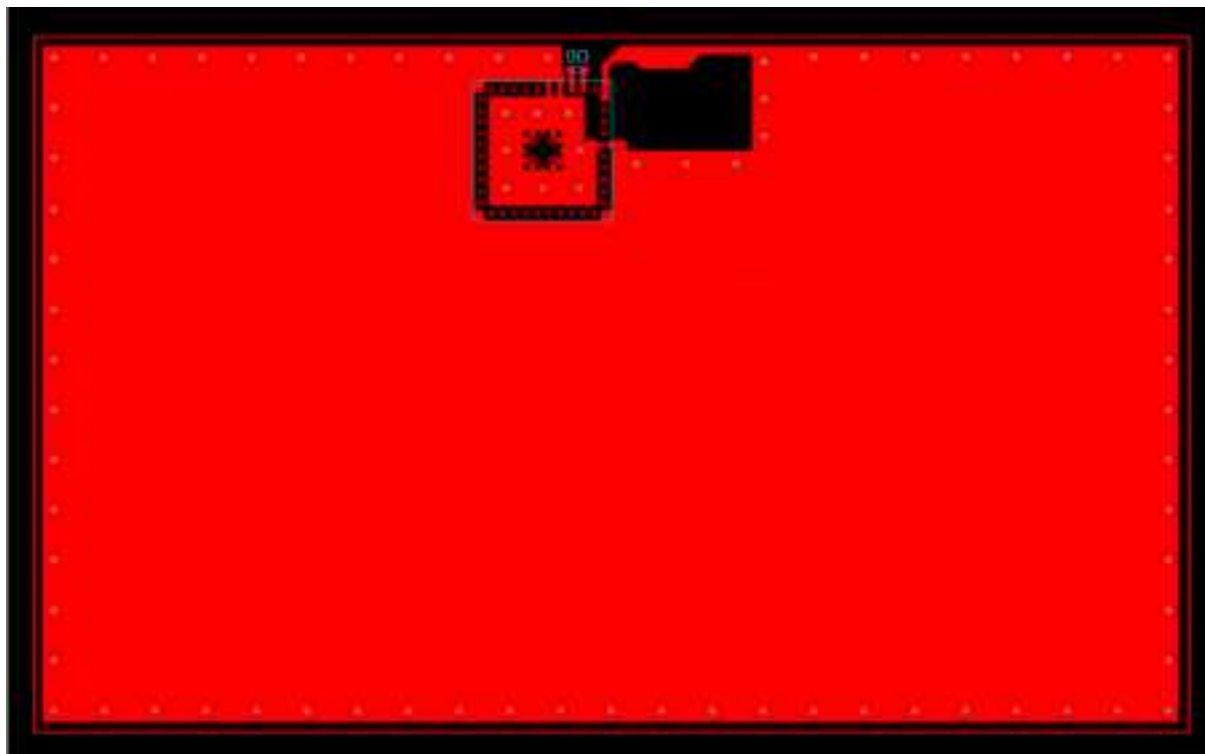
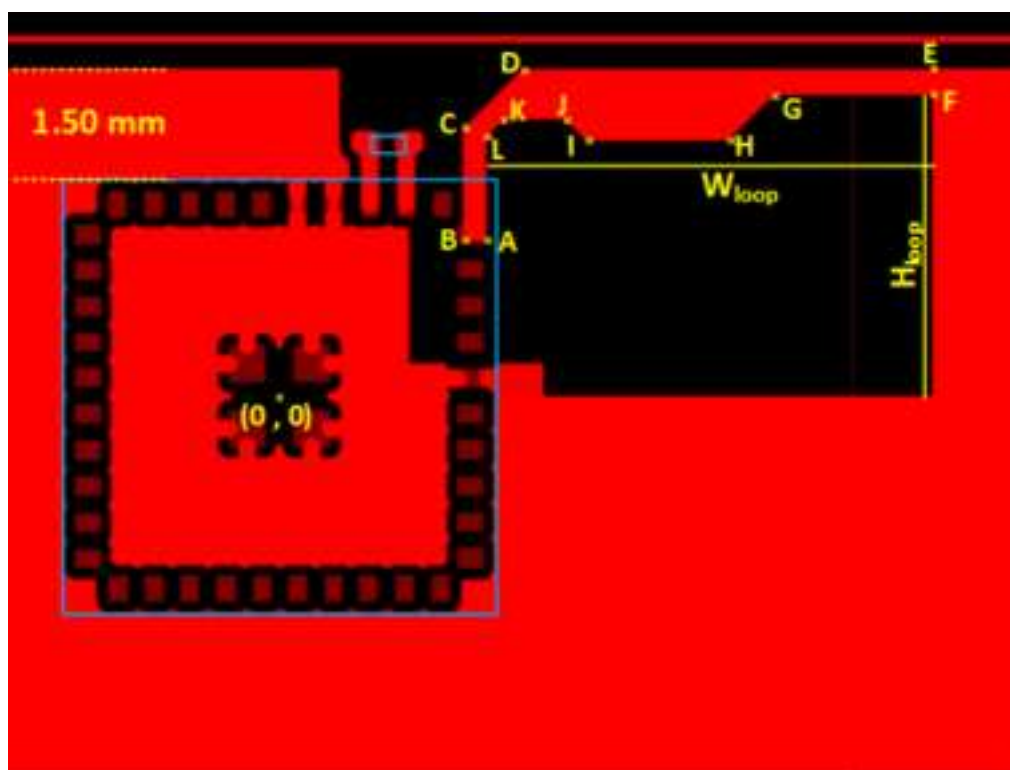

Figure 9: Recommended Layout for Lyra S
Figure 10: Internal Antenna Layout With Coordinates
- Place the module 1.50 mm from the edge of the copper “keep-in” area at the middle of the long edge of the application PCB, as illustrated in Figure 9.
- Copy the exact antenna design from Figure 9 with the values for coordinates A to L given in Figure 10.